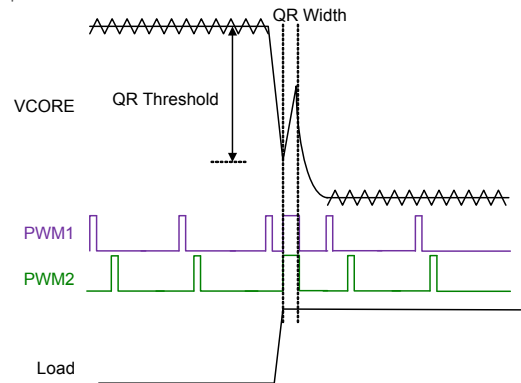

Figure 25. Quick Response Mechanism
When the transient load step-up becomes quite large, it is difficult for loop response to meet the energy transfer. Hence, that output voltage generate undershoot to fail specification. The RT3602AJ has Quick Response (QR) mechanism being able to improve this issue. It adopts a nonlinear control mechanism which can disable interleaving function and simultaneously turn on all UGATE one pulse at instantaneous step-up transient load to restrain the output voltage drooping. Figure 25 shows the QR behavior.